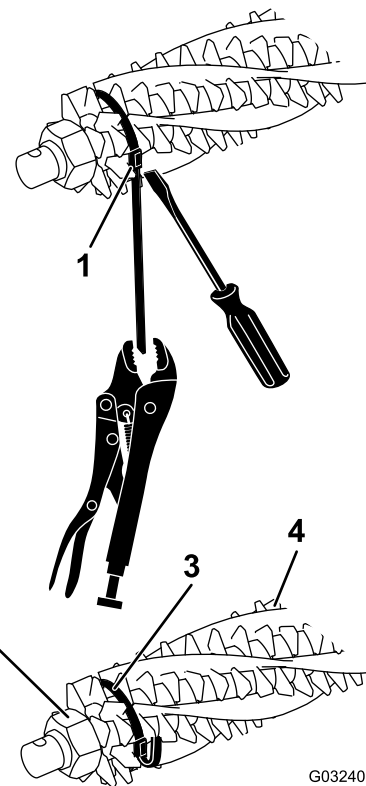
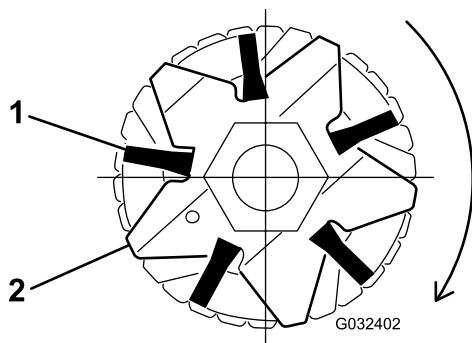

Figure 15
Figure 17
2. Loosen the groomer blade-retaining nuts on each end of the groomer shaft (Figure 15).
4. Verify that the brushes are seated in the groomer blade slots (Figure 15 and Figure 17).
5. Loosely wrap the straps, as shown in Figure 15, around the groomer reel shaft and brushes inserting the straps in the grooves in the brushes Figure 17.
Note: If the broomer brushes are not seated properly in the blade slots, loosen the groomer-blade retaining nuts on each end of the groomer shaft, position the broomer brushes properly in the blade slots, and tighten the groomer-blade retaining nuts (Figure 15).
7. While pushing a screwdriver against the strap buckle, grasp each strap with a locking pliers and pull the straps tight until they lock into the brush grooves (Figure 15).